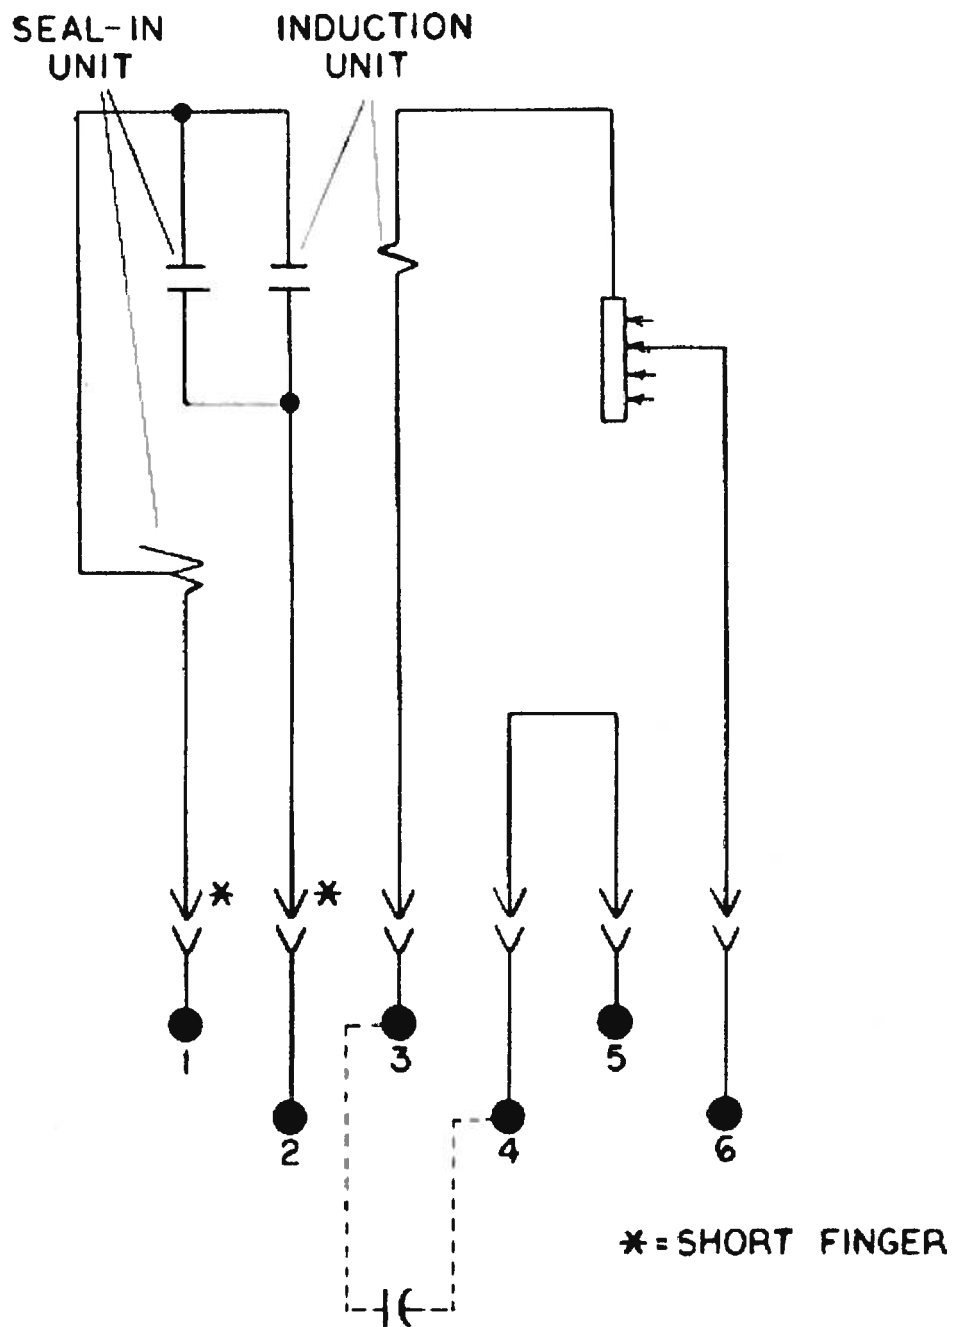

FIG. 4 (362A514-3) INTERNAL CONNECTIONS OF THE TYPE IAV51K RELAY, FRONT VIEW
- FIG. 4 (0362A514-3) INTERNAL CONNECTIONS OF THE TYPE IAV51K RELAY, FRONT VIEW